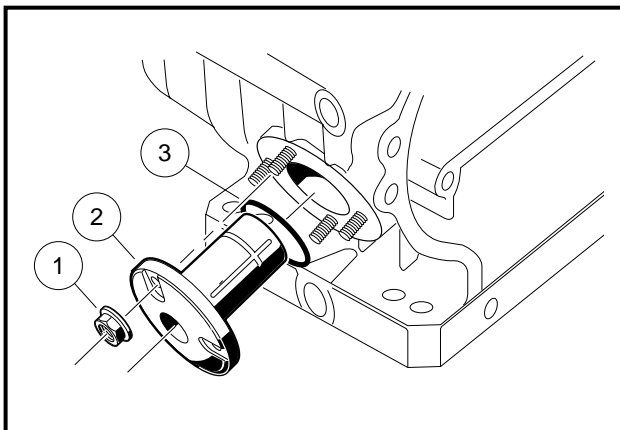

Figure 13-73 Counterbalance Guide Shaft and O-Ring Removal
1. Remove the four nuts (1) and pull out the counterbalance guide shaft (2) and the O-ring (3) (**Figure 13-73, Page 13-35**).